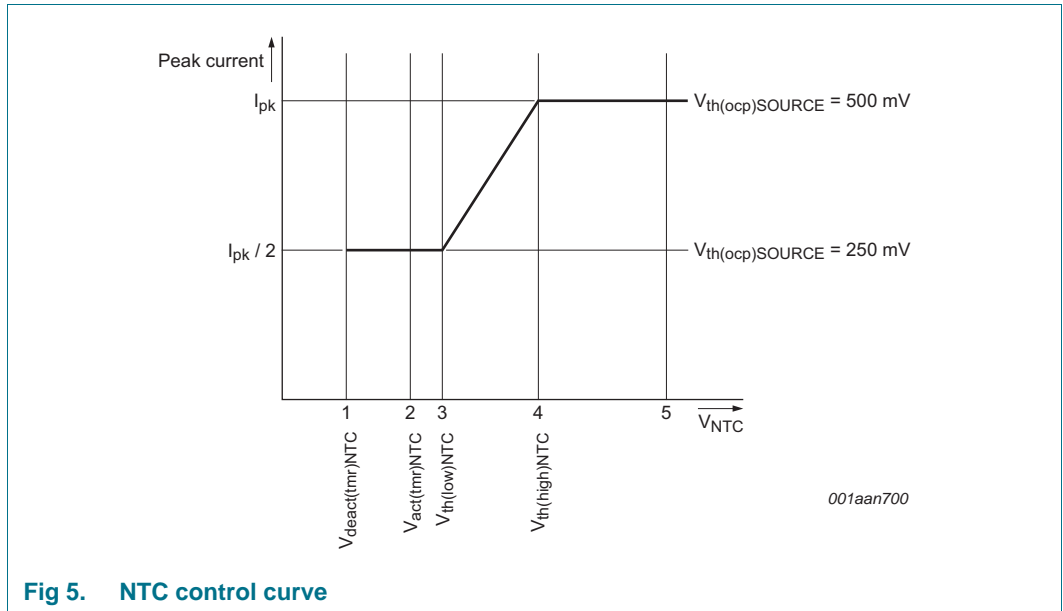

Fig 5. NTC control curve
When the voltage on the NTC pin is higher than $V_{th(high)NTC}$, see Figure 5 \(4\), the converter delivers nominal output current. When the voltage is lower than this level, the peak current is gradually reduced until $V_{th(low)NTC}$ is reached, see Figure 5 \(3\). The peak current is now half the peak current of nominal operation. When $V_{act(tmr)NTC}$ is passed, see Figure 5 \(2\), a timer starts to run to distinguish between the following situations:
- If the low-level $V_{deact(tmr)NTC}$ is not reached within time $t_{to(deact)NTC}$ Figure 5 \(1\), LED overtemperature is detected. The IC stops switching and attempts to restart from the HV pin voltage. Restart takes place when the voltage on NTC pin is higher than $V_{th(high)NTC}$, see Figure 5 \(4\). It is assumed that the reduction in peak current did not result in a lower NTC temperature and LED OTP is activated.
- If the low-level $V_{deact(tmr)NTC}$ is reached within the time $t_{to(deact)NTC}$ Figure 5 \(1\), it is assumed that the pin is pulled down externally. The restart function is not triggered. Instead, the output current is reduced to zero. The output current rises again when the voltage is higher than $V_{deact(tmr)NTC}$.
The NTC pin can be used to make a soft start function. During switch-on, the level on the NTC pin is low. By connecting a capacitor (in parallel with the NTC resistor), a time constant can be defined. The time constant causes the level on the NTC pin to increase slowly. When passing level $V_{th(low)NTC}$ Figure 5 \(3\), the convertor starts with half of the maximum current. The output current slowly increases to maximum when $V_{th(high)NTC}$ Figure 5 \(4\) is reached.